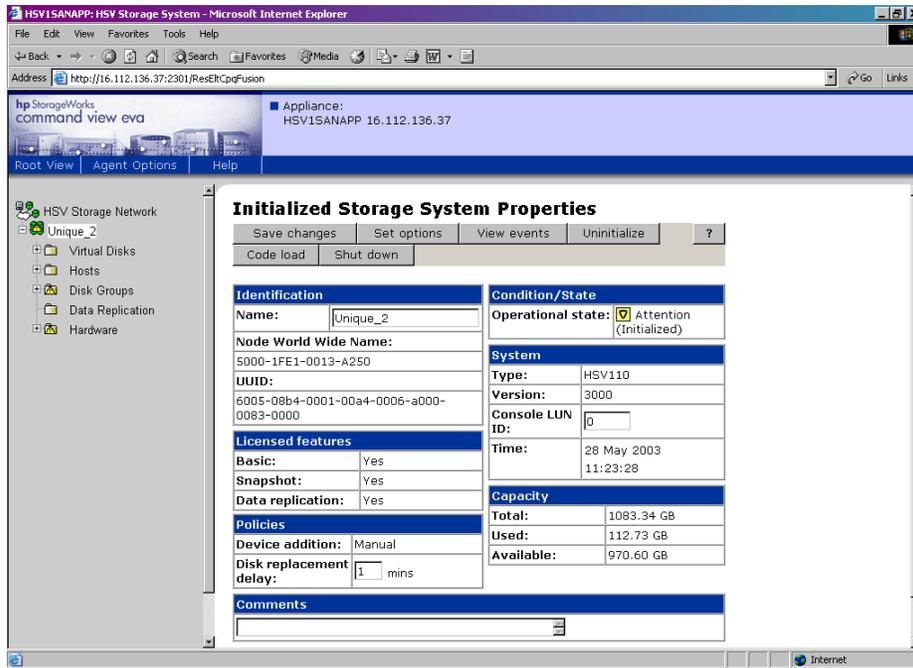

Figure 2.4. Initialized Storage System Properties page
2. In the Navigation pane, click the name of the storage system to access the **Initialized Storage System Properties** page (similar to the screen shown in Figure 2.4).